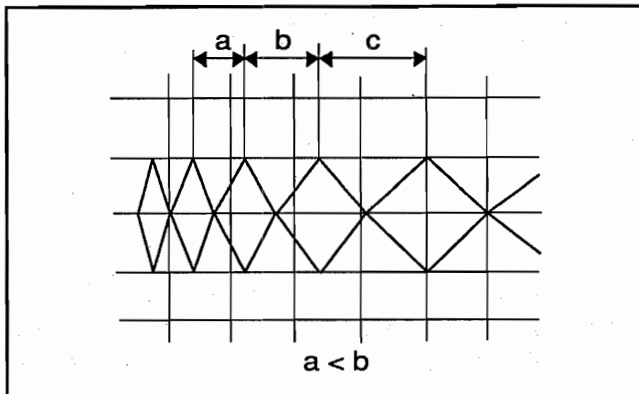

Fig. 1-12
- 1) If the pitch is less at the left side (Fig. 1-12), adjust Guide 5 according to the procedure in "Tape Supply Alignment."